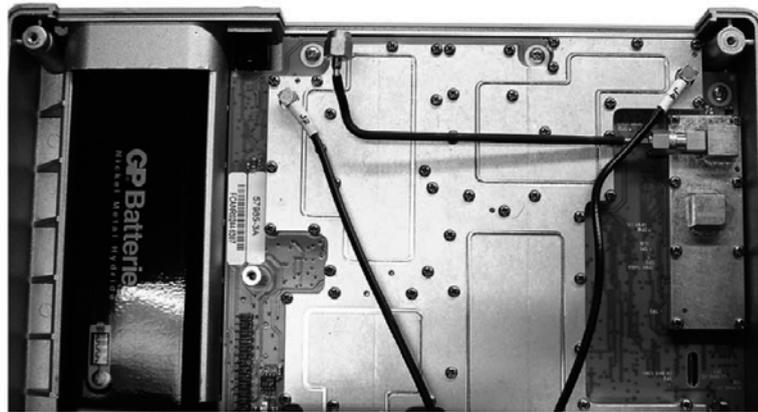

Figure 3-5. S412D Spectrum Analyzer PCB
- The spectrum analyzer PCB can be removed from the case by removing the 4 screws and 3 standoffs around the edge of the PCB. Do not adjust any of the small screws that attach the RF shields of the PCB (See Figure 3-5).